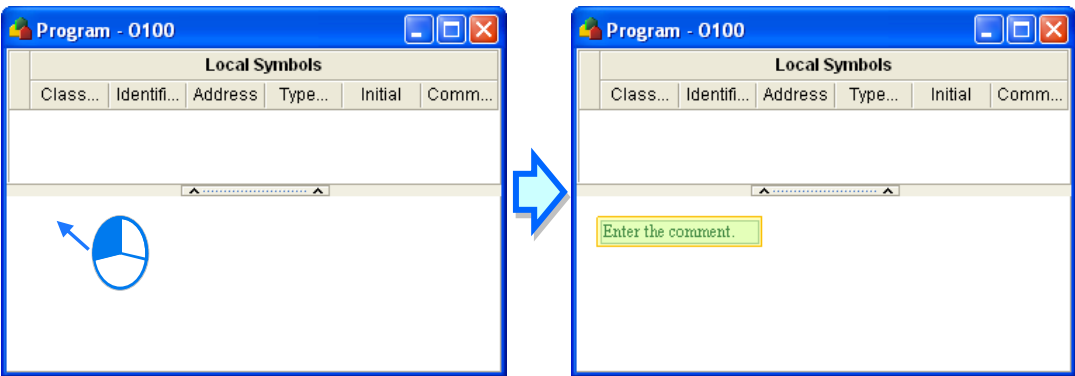

Figure 12-41 Inserting a comment
- (2) After the users click a position in the program editing area, an object will be inserted, as shown in figure 12-41.